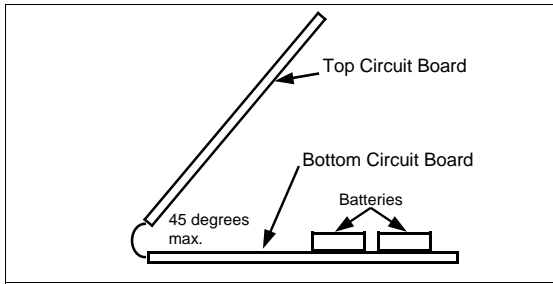

Figure 1: Side View - Lift Top Circuit Board
2. **Carefully** lift the top circuit board to allow removal of batteries from bottom circuit board. Lift the top circuit board away from the bottom circuit board **no more than 45 degrees** (see figures 1 and 2) to allow removal of batteries.